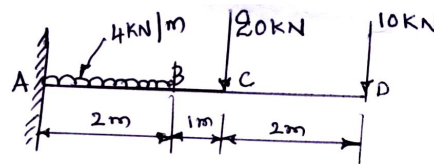

Fig.Q9(b)
b. Find the slope and deflection at the free end of the cantilever shown in Fig.Q9(b). Take $E = 200\text{kN/mm}^2$, $I = 40 \times 10^6\text{mm}^4$. (10 Marks)